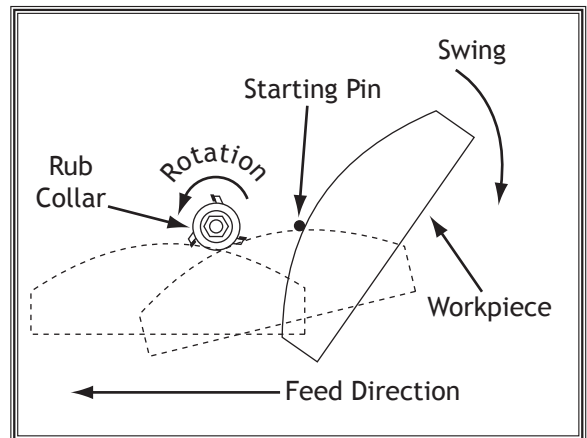

Figure 24. Using a starting pin for freehand routing (custom guard not shown for clarity).
Irregular or freehand routing, as illustrated in **Figure 24**, takes a high degree of skill and dexterity and is done without the protection and aid from the fence and guard. The most dangerous part of free-hand routing is beginning the cut, where the cutter first contacts the workpiece. Often the workpiece will tend to jerk or kickback, presenting an injury hazard to the operator.
8. Rest the jig with the workpiece attached against the starting pin or block, then slowly pivot and feed it into the bit. After the cut is started, move the jig against the rub collar and away from the starting pin or block, as illustrated in **Figure 24** on the previous page.